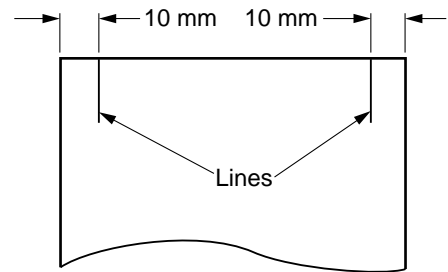

Figure 3-405
- 1) Draw a line 10 mm from both ends of copy paper (A4 or A3) as shown in Figure 3-405.